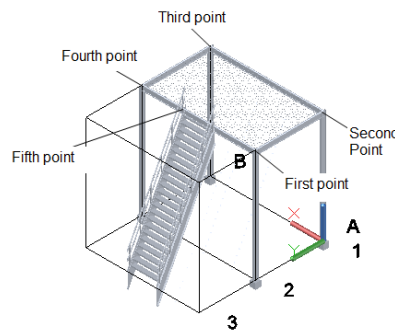

Figure 3-48 Points to be selected to create the railing
3. Invoke the **Railing** tool again and select the points, as shown in Figure 3-48; a railing is created between the selected points. Next, press ENTER.